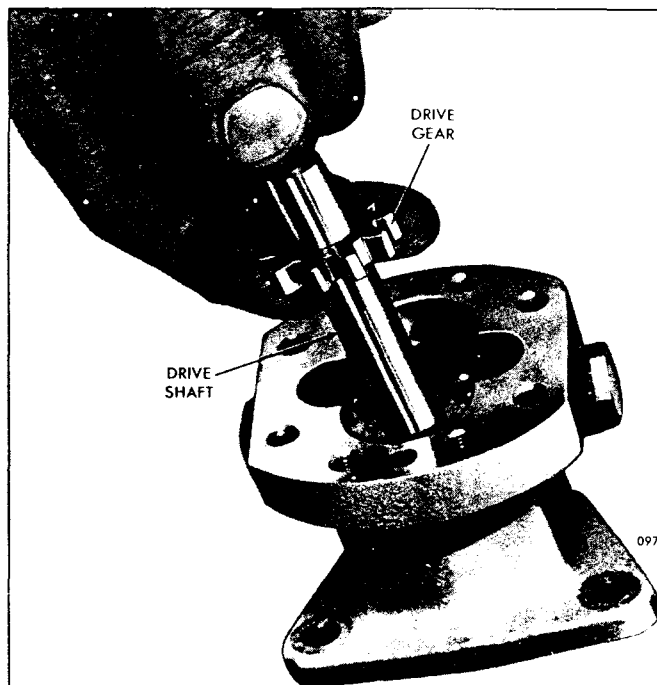

Fig. 9 – Installing Fuel Pump Drive Shaft and Gear Assembly
4. Lubricate the pump shaft and insert the square end of the shaft into the opening at the gear side of the pump body and through the oil seals as shown in Fig. 9.